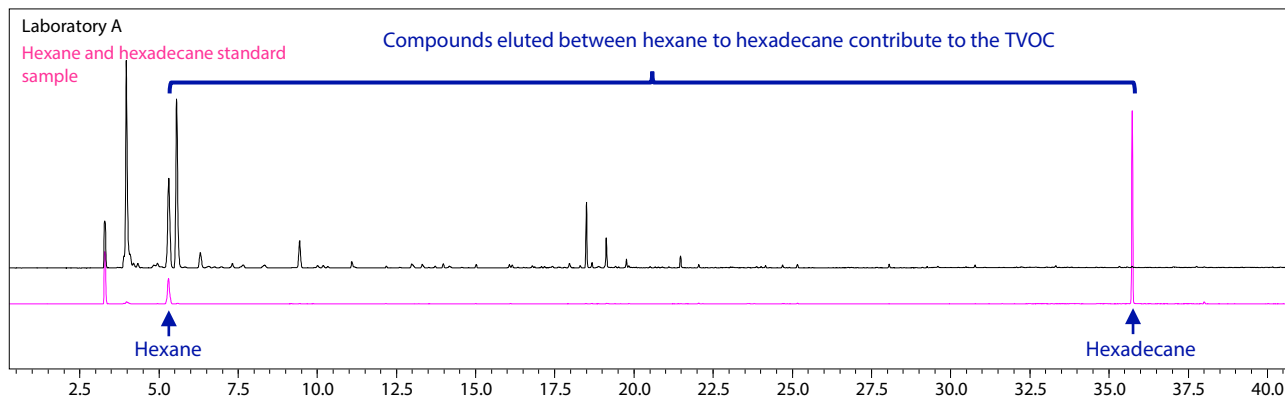

Fig. 4 TIC Chromatograms for Air Collected in Laboratory A and Hexane/Hexadecane
Fig. 4 shows the TIC chromatogram for the actual sample. Of the peaks detected here, those in the interval from hexane to hexadecane were defined as VOCs, and were used for the TVOC calculation. After peak integration and qualitative analysis, the results obtained were read into TVOC Calculation Tool. Following this, the total value for the concentrations of all the peaks was calculated automatically and used to indicate the TVOC value in Fig. 5 (2). In addition, the concentrations found using the respective toluene conversions for each peak were calculated individually as shown in Fig. 5 (3) and (4) and could be printed in a report as is, heightening the procedural efficiency. In (4) for example, only some of the compounds detected are displayed.